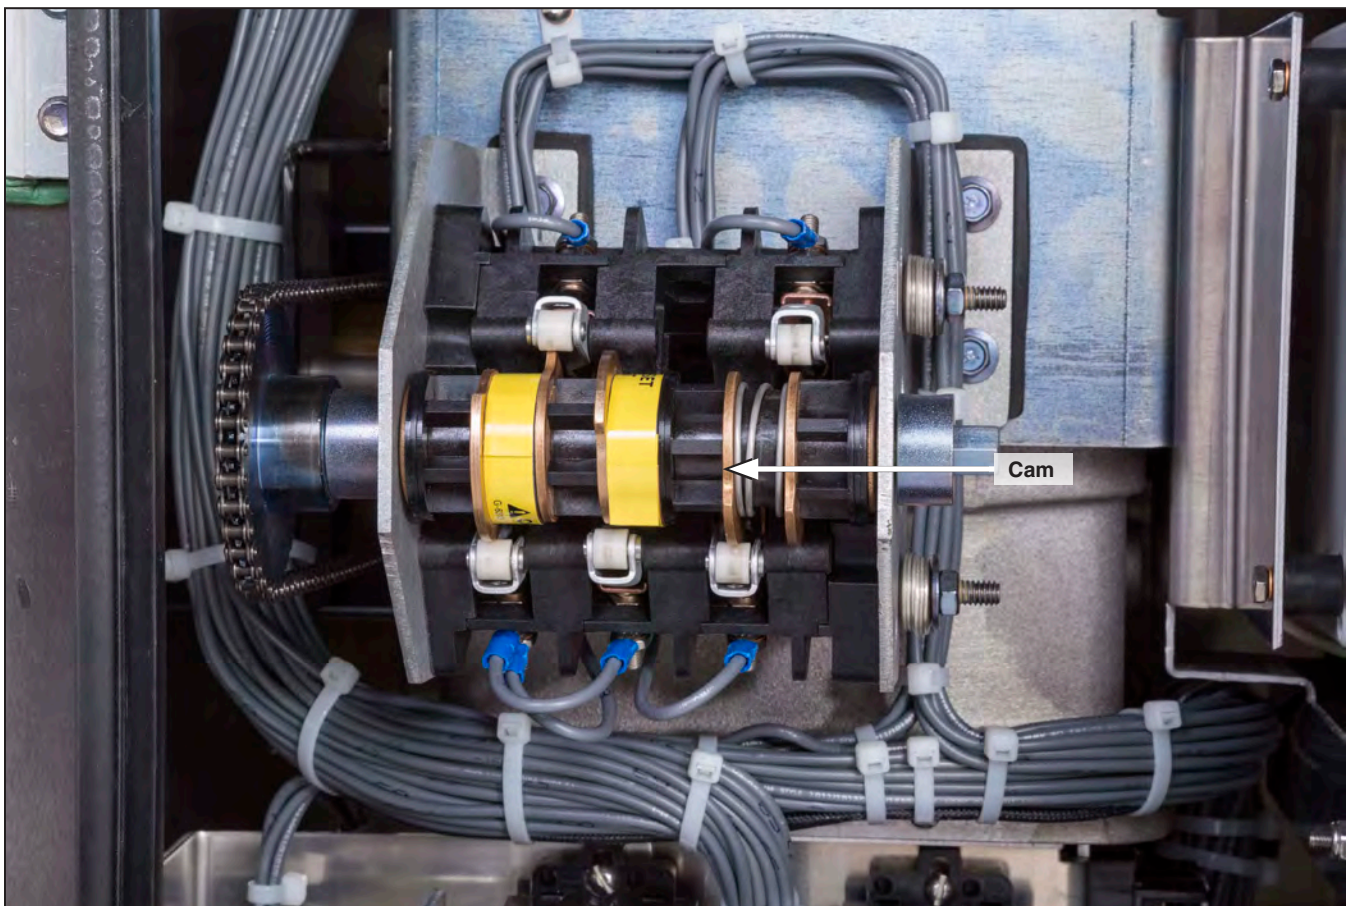

Figure 30. Adjusting cams on the auxiliary switch.
- STEP 1.** Push the cam toward its adjacent spring until the cam is separated from the teeth of the inner gear. See Figure 30.